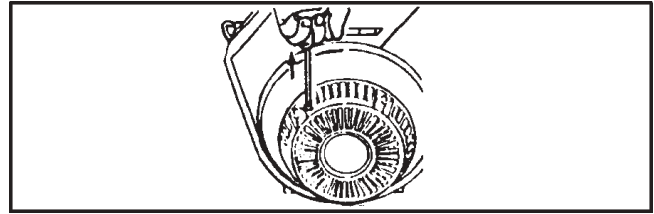

Figure 3-5. Recoil Starter - Vanguard Engine
2. Place the gearshift in the neutral (N) position.
5. Grasp starter grip as illustrated and pull slowly until recoil engages (Figure 3-5).